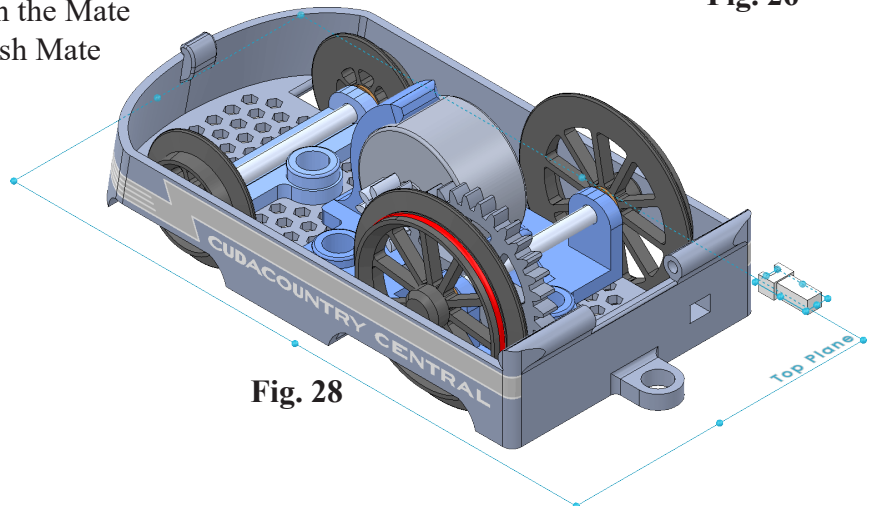

Fig. 28
Step 3. Click **Distance**  in Mate pop-up, **Fig. 27**. Set **distance 6.45** and press ENTER. The JST should positioned horizontally with hole, **Fig. 28**. If positioned in opposite direction, click